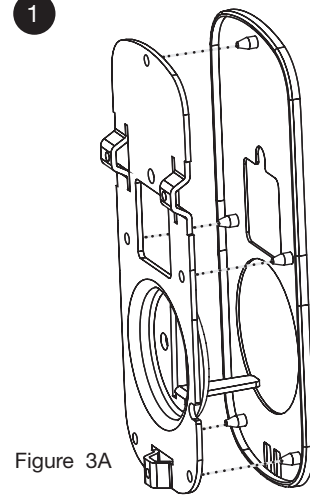

Figure 3A
- a. Ensure that gasket on Inside Mounting Plate is properly fitted. Note the positioning of the gasket's five rubber nubs (Figure 3A).
As you position the outside escutcheon, route the wire harness through 2-1/8" diameter hole (Figure 3A).